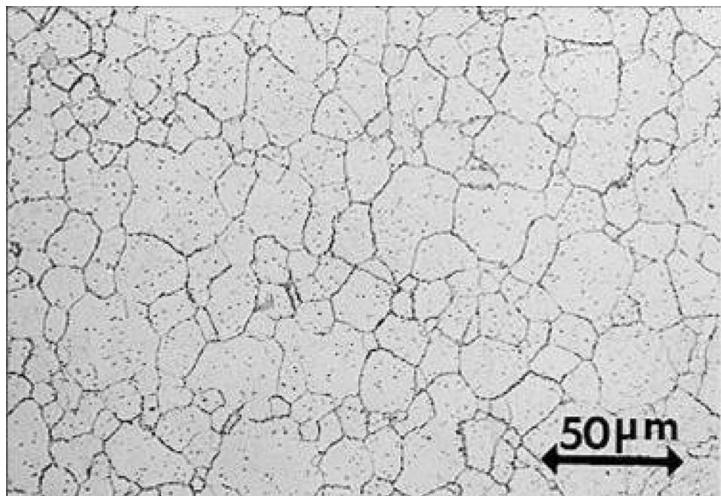

Figure 6
17. You are a TV reporter who rides in a helicopter to advise commuters about their travel time from their bedroom community to a city 20. miles away. You notice from your helicopter there are 160 cars per mile. Assume that all the drivers are observing the rule-of-thumb “follow rule” (see Figure 6). What should you tell your audience that the travel time between the cities will be? (A: **1 hr, 11 min.**)
The units N/m2 also have the name **Pascal** (abbreviated as “**Pa**”), but we are generally interested in large numbers and therefore use the *giga* prefix of 109. (See Chapter 2, Table 3, for convenient units.) Our answer is thus  $\sim$ 100 GPa (G being the prefix for giga). This force per unit area is equivalent to piling 100 billion apples on top of a 1 m  $\times$  1 m tray4 here on earth, and, as we shall see following, it is a much larger force/area than observed in practice. Why? Real crystals are finite in extent and are usually randomly oriented. Figure 6 shows a polished piece of copper as viewed under a microscope. Individual random crystals of copper are quite obvious.